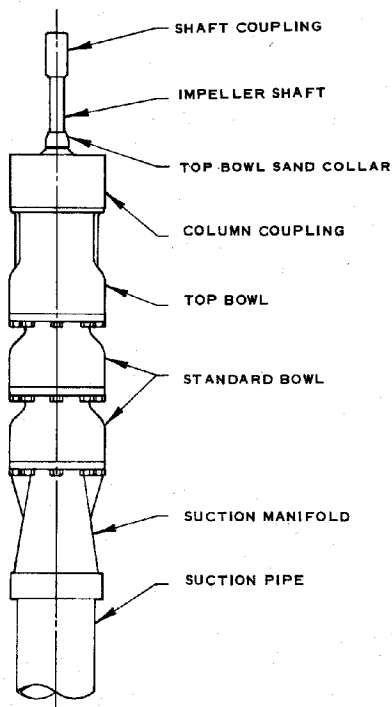

Fig. 7-2. Open Lineshaft Bowl Unit.
4. Fasten a second elevator clamp to the top of the bowl unit, just below the column pipe coupling. (See Fig. 7-2.) Attach the sling to the elevator